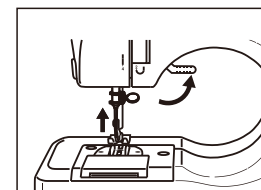

Fig.7
2. Raise the presser foot lifter and place the fabric you want to sew under the presser foot (Fig. 7 ).